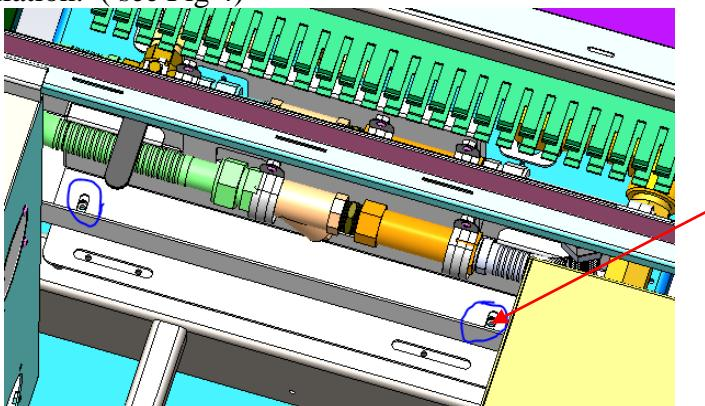

Fig 4
4. Loosen strainer fixed screw , remove strainer assembly , Retain all hardware. Set aside for reinstallation. (see Fig 4)